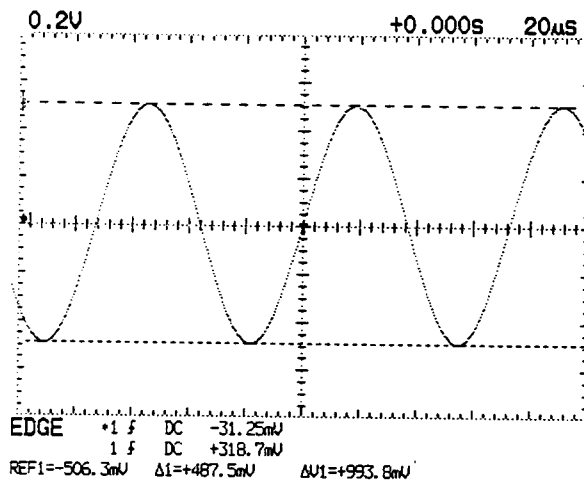

Fig. 6-44
(1) In case of voltage measurement cursors (V CURSORS) (See Fig. 6-44 )